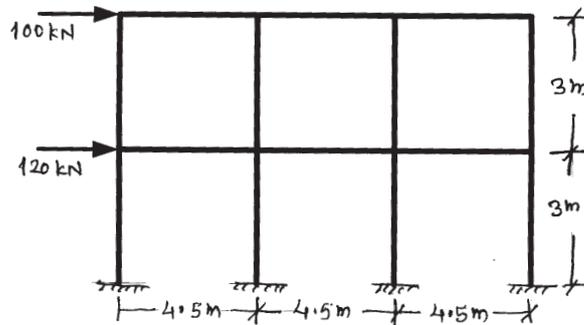

Figure 11
- b) Determine the approximate values of moments, shear and axial force in each member of frame shown in Figure 11. Use Portal Frame Method. Assume columns of same cross section. [12]